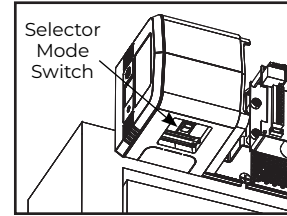

Figure 27
1. Open door on union assembly and place selector mode switch in 'OFF' position. (Figure 27)
7. Place selector mode switch of union assembly in 'ON' position for activation by push plate, RF button, or other activation devices. Place switch in 'H/O' for continuous hold open. (Figure 27) Secure union assembly door with #4 Phillips screw when finished.